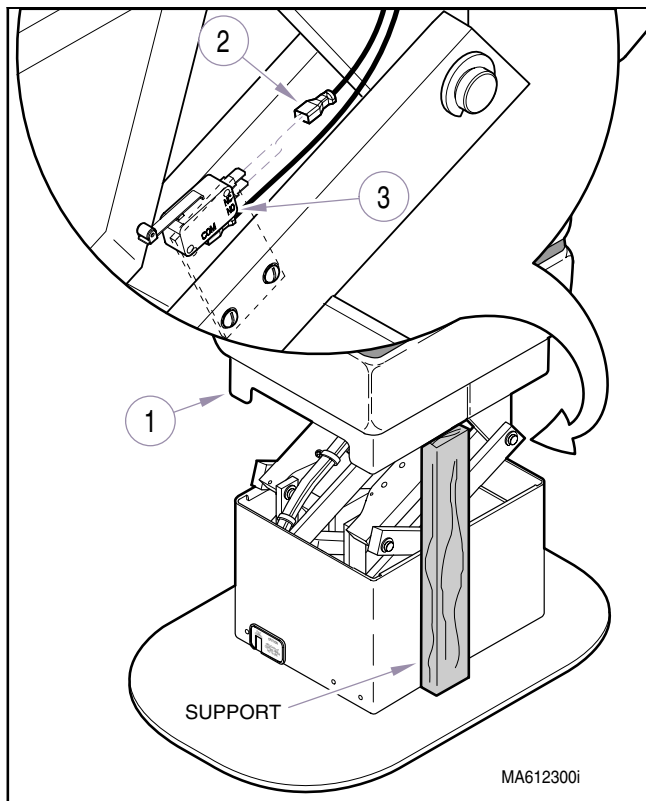
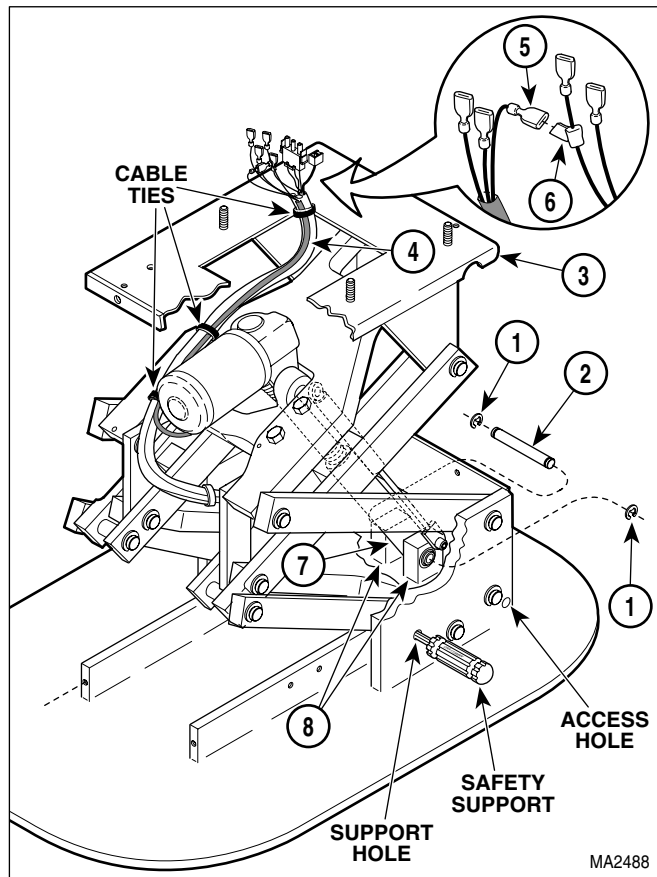

Figure 4-12. Base Up Limit Switch
Figure 4-13. Base Actuator Assembly Disconnection/Connection
- (1) If possible, raise TABLE UP function all the way up.
- (2) Lift & support middle shrouds (1, Figure 4-12).
- (3) Move wire (2) from **N.C.** terminal of base up limit switch (3) to **N.O.** terminal as shown.
- (4) Depress Base Up foot pedal. [Table should raise slightly, then stop].
- (5) Remove table top (Refer to para 4.3).
- (6) Remove shrouds (Refer to para 4.4).
- (7) Remove two e-rings (1, Figure 4-13) from clevis pin (2).
- (6) Install gas spring (3) on brackets (4 and 5) and secure with four washers (2) and two shoulder screws (1). If applicable, repeat step for remaining gas spring.
- (7) Remove safety supports from support holes. See Figure 4-13.
- (8) Push base subassembly (3, Figure 4-13) downward until base actuator assembly (7) is aligned with brackets (8); then secure base actuator assembly in position with clevis pin (2) and two e-rings (1).
- (9) Connect wire (5) to wire tap (6), if unit has base down limit switch.
- (10) Secure base actuator wire harness (4) to other wire harnesses with cable ties.
- (11) Move wire (2, Figure 4-12) from **N.O.** terminal of base up limit switch (3) to **N.C.** terminal.